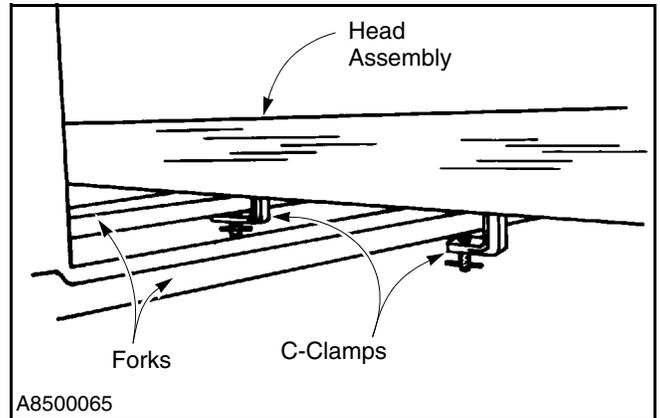

Figure 15
3. Clamp the head assembly to the forklift before lifting it into position. (See Figure 15.)